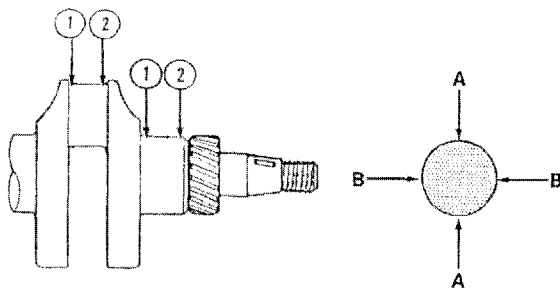

Figure 73
2. Using a micrometer, measure the crankshaft journals for size, runout, and taper Figure 73.
3. The amount of taper in a journal is the difference in the measurements taken at points 1 and 2 on a journal, Figure 73.
4. The amount of out-of-round in a journal is the difference in the measurements taken at A and B, Figure 73.